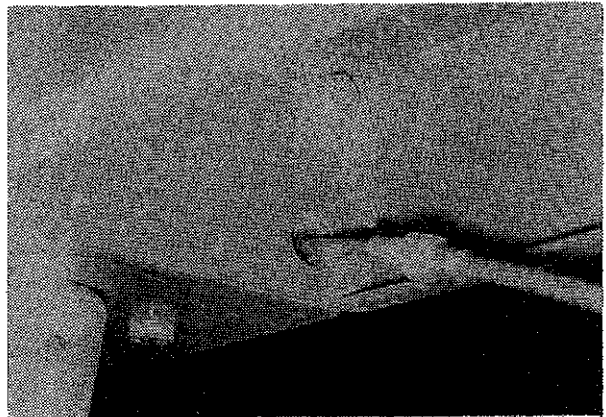

Figure10
- Step 3 Insert the linkage end of the control cable through the lower rear hole inside the center bulkhead as shown in figure 10.